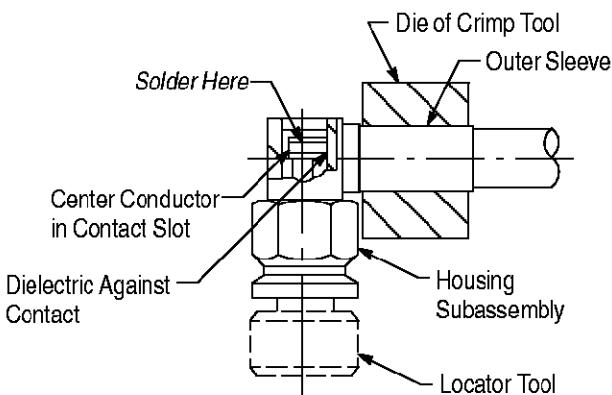

Figure 3
3. Secure the housing subassembly to the locator tool as shown in Figure 3. Secure the housing subassembly in a small bench vise.
5. Insert the center conductor into the housing subassembly making sure that the center conductor sits in the contact slot and the dielectric is against the contact. See Figure 3.
6. Place the soldering iron on the tip of the contact, and solder. Refer to Figure 3.
7. Slide the outer sleeve over the cable braid, and crimp the outer sleeve. Refer to Figure 3. Trim excess braid strands.